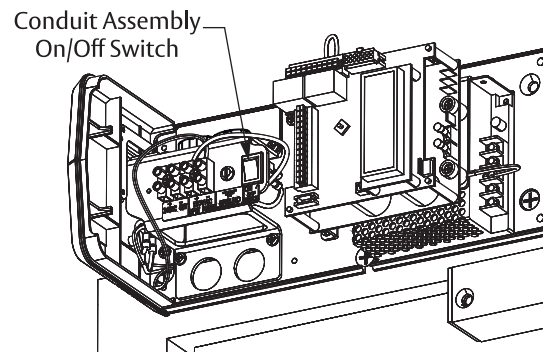

Figure 8 Union Assembly and Spacer not shown
1. Turn On/Off switch to OFF position on conduit assembly. (Figure 8)